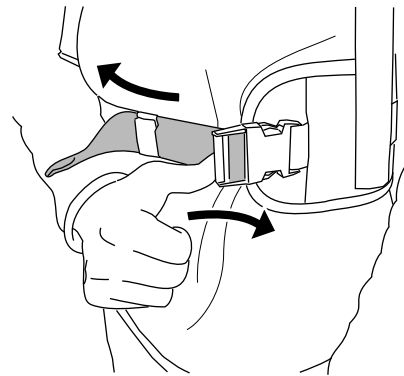

Figure 9
6. If the hip belt is too tight, push sideways on the adjuster to lengthen the straps (Figure 9).